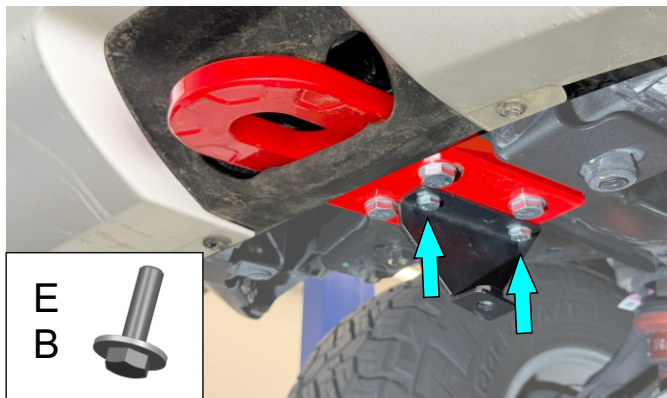

Fig. 8
8. **For Ranger only.** Secure skid plate brackets (items 7, 8) to recovery points using M8x20 bolts and M8 washers (items B, E) on both sides of the vehicle as shown in Fig. 8.